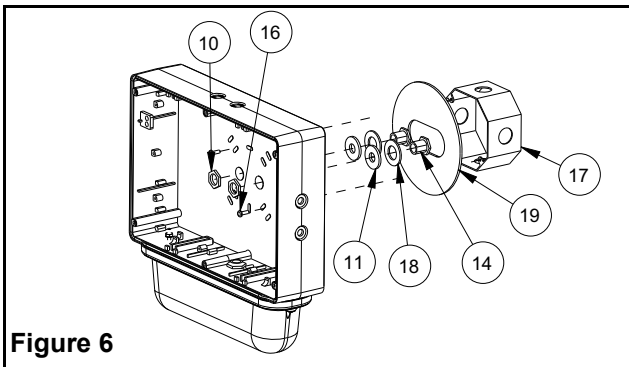

Figure 6
- a. Remove the backplate from the packaging. Determine the proper knockouts to remove for mounting to a junction box (see fig. 6).
- d. Mount parts 11, 12, 15 & 19 to backplate (as shown in fig. 6) and reinstall the backplate to the frame using the tamper-proof screws (use the supplied bit).